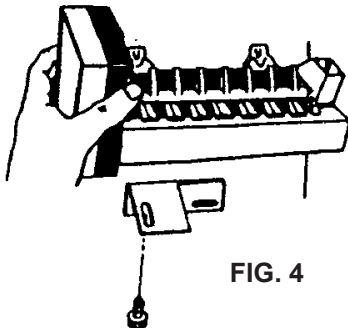

FIG. 4
4. Install lower bracket using the one on the defective unit with a self tapping screw (Figure 4).